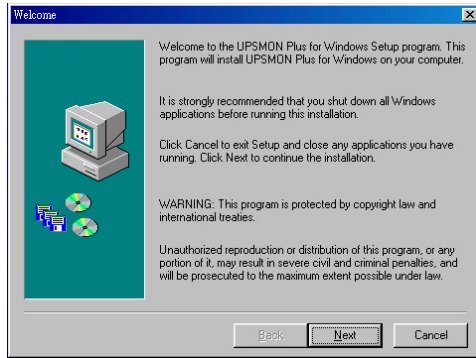

Fig 5.3
- A windows labeled **Welcome** appears, please read and follow instruction written in the window and click “Next”. (see Fig 5.3)